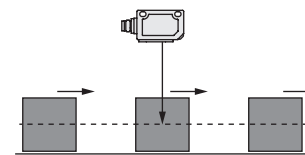

Fig. 4: Setting the switching point
- The sensor got to know the distance to the object at the teach-in stage. For objects that move into the sound field from the side (see Fig. 4), an 8-10 % greater distance is detected by the sensor.